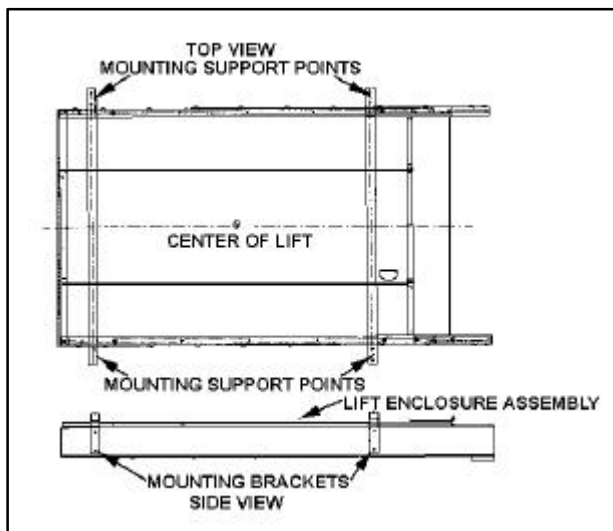

FIGURE 2-1: LIFT MOUNTING
- Refer to **Figure 2-1**. Mounting brackets shown here are for illustrative purposes only. Brackets vary in appearance. Mounting brackets are supplied in the vehicle specific installation kits only. Regardless of vehicle type, mechanical support of the lift will be provided at four attachment points. Refer to the provided installation instructions for specific mounting points.